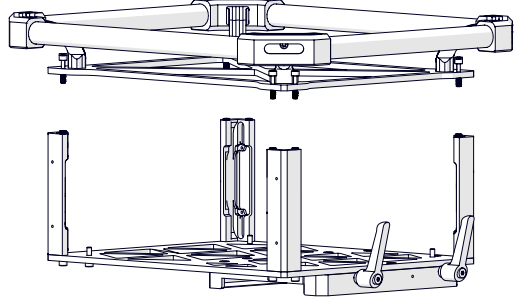

Fig. 89 - Top half of instrument box frame separated from bottom half
2. Separate the top half of the instrument box frame from the bottom half (Fig. 89).